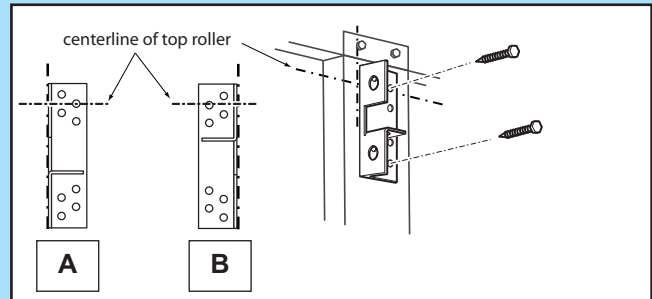

FIG. 2-8 Examples of door bracket positioning.
- Align door bracket centered on your vertical centerline (**Fig. 2-8**).